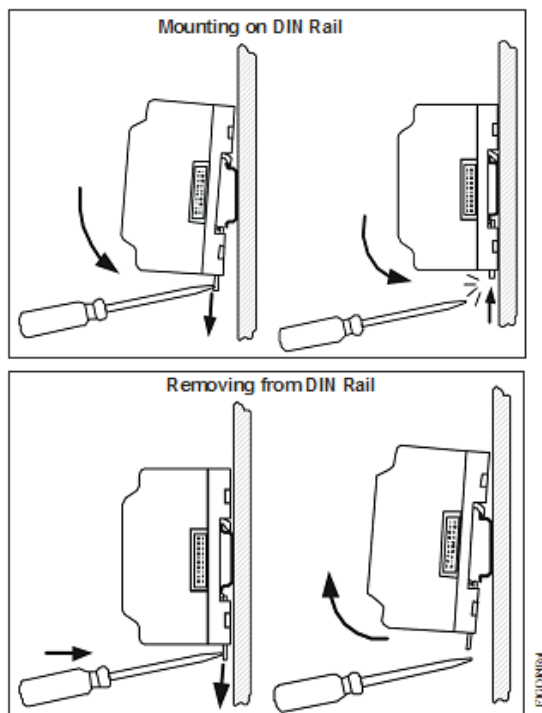

Figure 3: DIN Rail Mounting
2. Position the FX30E/FX60E on the rail, then tilt it to hook the DIN rail tabs over one edge of the DIN rail (Figure 3).